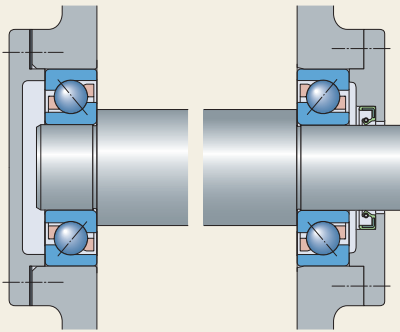

Fig. 14
- tapered roller bearings (fig. 14)